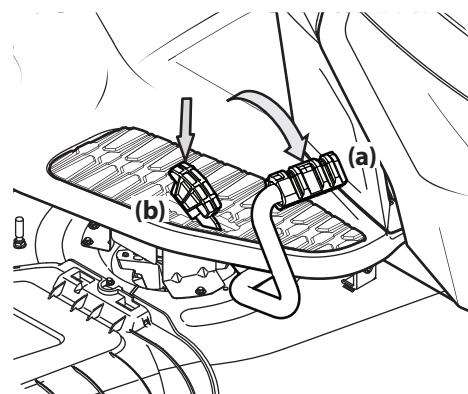

Figure 3-3
- To travel FORWARD, slowly press the forward drive pedal (a) forward until the desired speed is achieved. See Figure 3-3.
- To travel in REVERSE, check that the area behind is clear then slowly depress the reverse drive pedal (b) until the desired speed is achieved. See Figure 3-3.